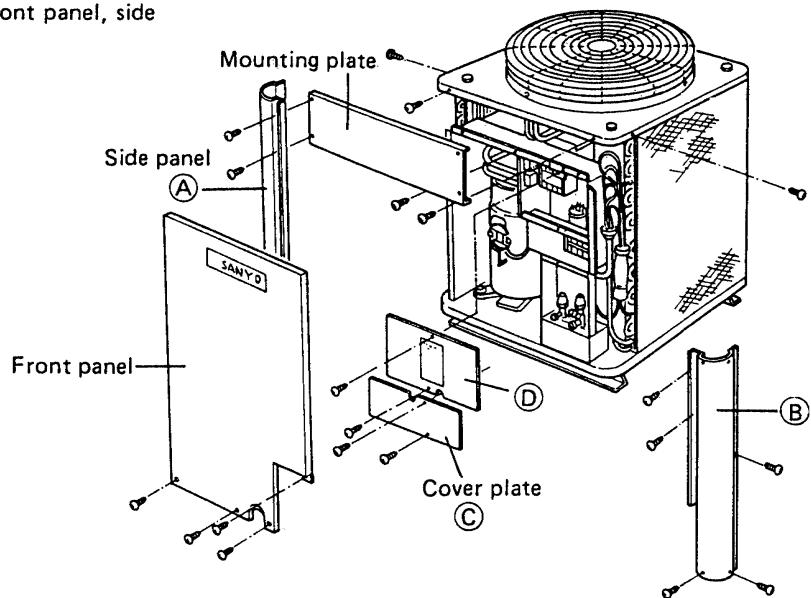

Fig. 9
- 1) Remove the outer panels in the order of front panel, side panel (A), and side panel (B).
- 2) Remove the cover plates (C) and (D).
- 3) Remove the mounting plate. Fig. 9
- 1) Many wires have to be removed. When removing wires, carefully check the electric diagram on the rear side of the cover plate **D** Fig. 9.